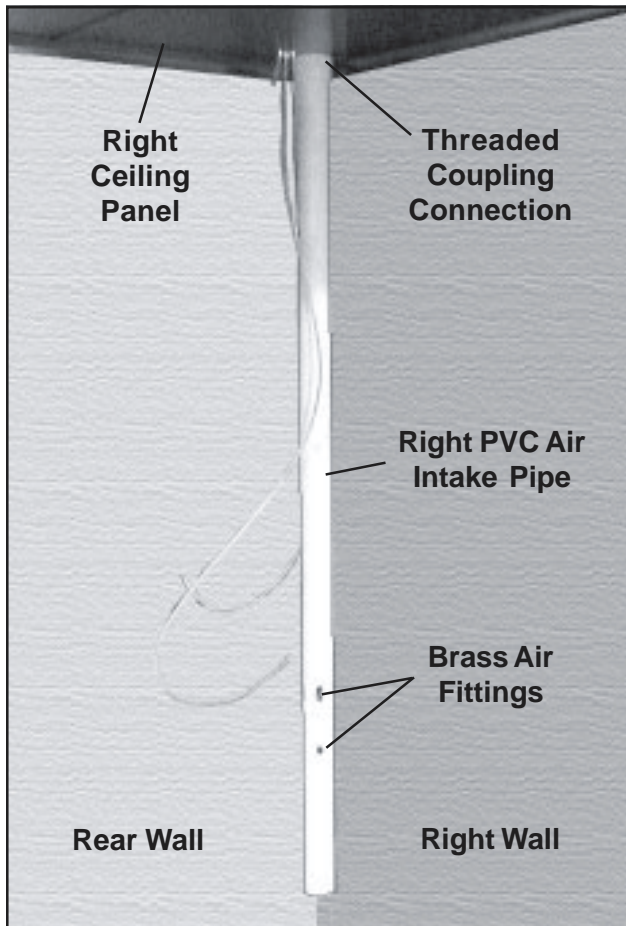

Figure 38. Right PVC Air Intake Pipe Mounted in Place
1. Screw the female threaded coupling on the right air intake pipe onto the male threaded coupling from the air intake duct projecting through the right ceiling panel (Figure 38). Make sure the air fittings are easily accessible so you can connect the air sensor lines.